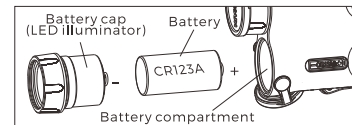

Fig 3
4.2.1 Battery installation(Fig 3)